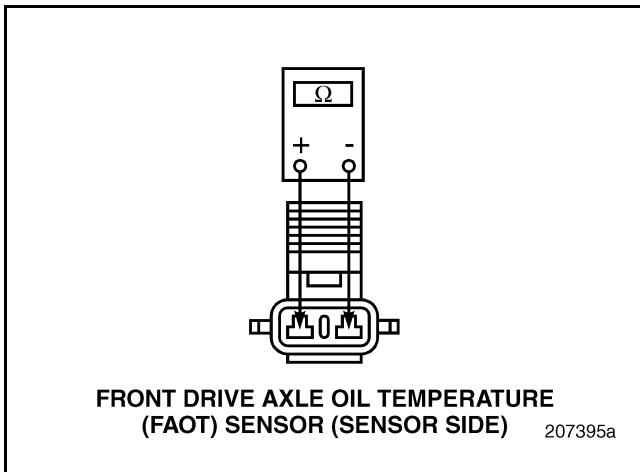

Figure 237
3. Measure the resistance across the two terminals of the sensor with the front drive axle between 32°F (0°C) and 194°F (90°C) (see Figure 237).